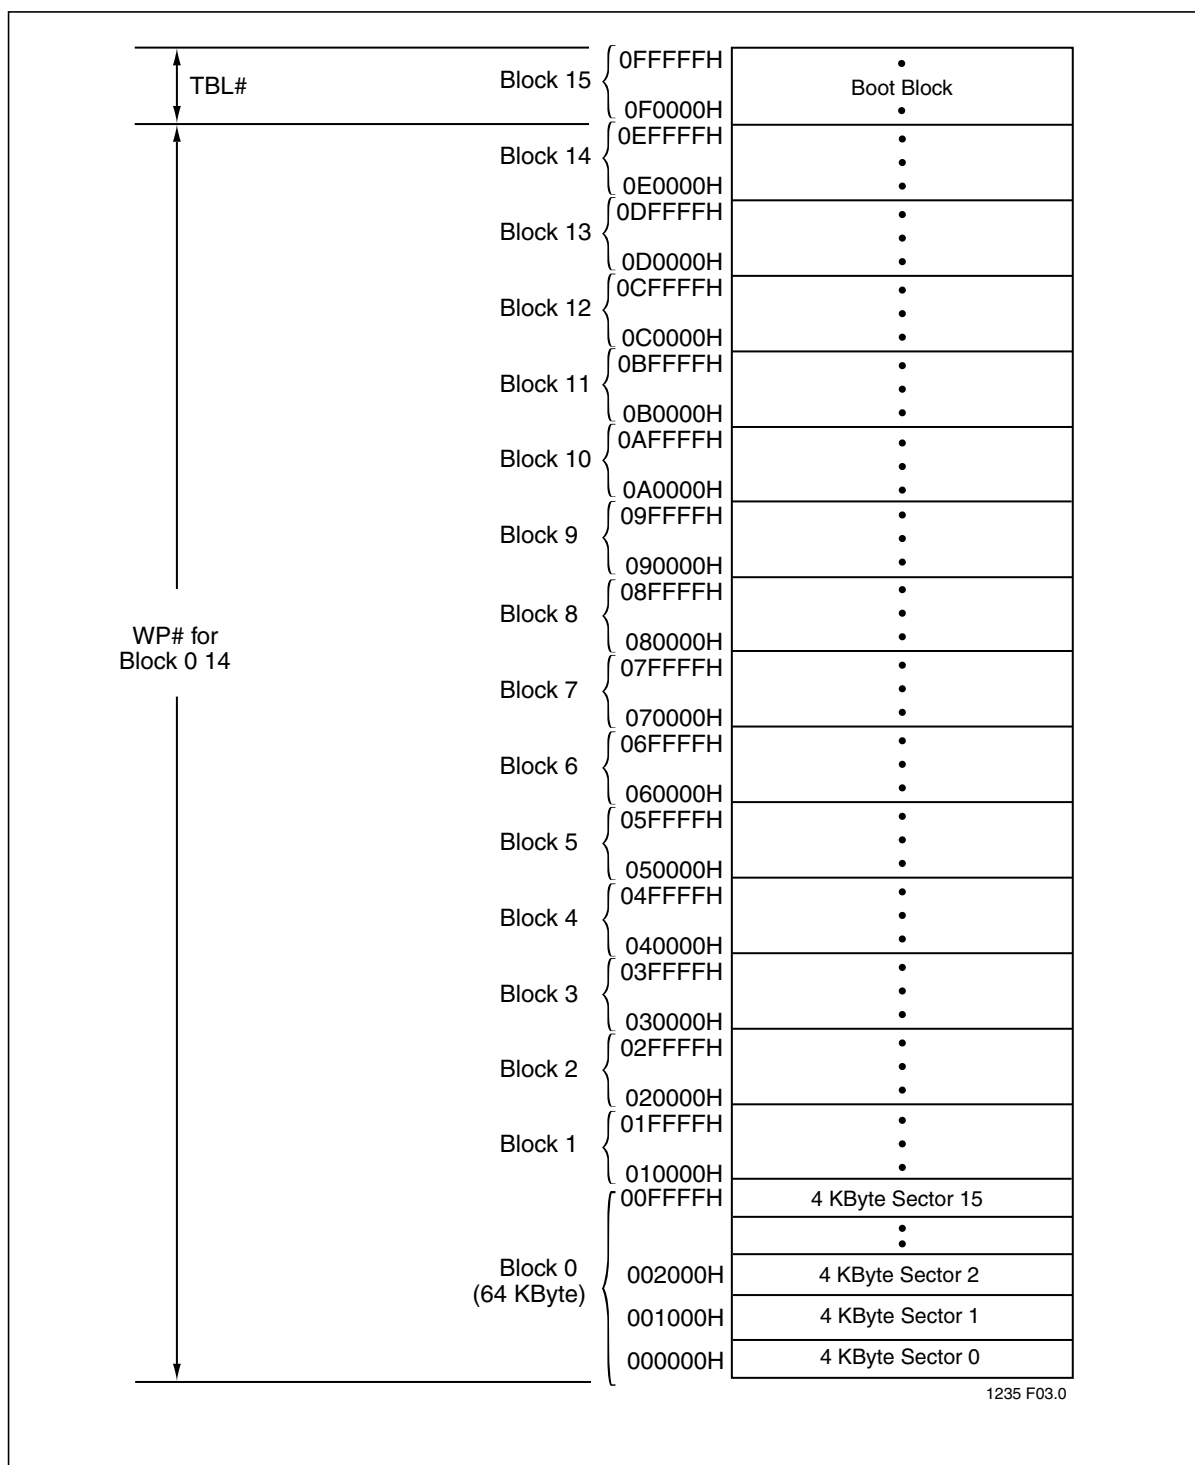

Figure 4: Device Memory Map
The SST49LF080A flash memory devices can operate in two distinct interface modes: the LPC mode and the Parallel Programming (PP) mode. The mode pin is used to set the interface mode selection. If the mode pin is set to logic High, the device is in PP mode. If the mode pin is set Low, the device is in the LPC mode. The mode selection pin must be configured prior to device operation. The mode pin is internally pulled down if the pin is left unconnected. In LPC mode, the device is configured to its host using standard LPC interface protocol. Communication between Host and the SST49LF080A occurs via the 4-bit I/O communication signals, LAD [3:0] and LFRAME#. In PP mode, the device is programmed via an 11-bit address and an 8-bit data I/O parallel signals. The address inputs are multiplexed in row and column selected by control signal R/C# pin. The row addresses are mapped to the lower internal addresses (A_{10-0}), and the column addresses are mapped to the higher internal addresses ($A_{\text{MS}-11}$). See Figure 4, the Device Memory Map, for address assignments.